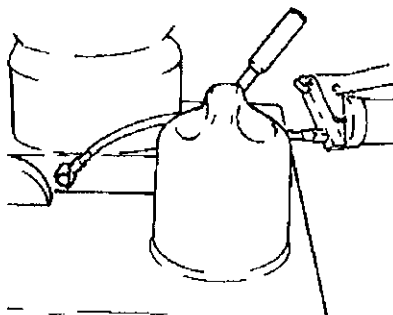
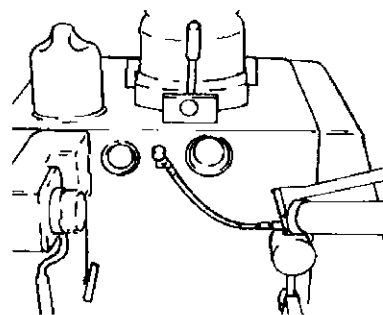

Fig. 7-1
Fig. 7-2
- With the machine running, lubricate the feed screw drive (Fig. 7-1) and the feed element seal (Fig. 7-2) with edible grease until grease escapes from the relevant relief bores.